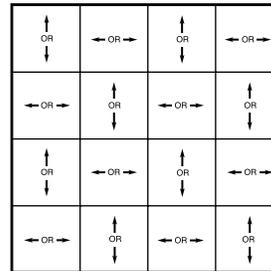

Fig. 1 - Turn tiles as shown.
- For best visual results: For DuraCeramic Origins the directional arrows printed on the back of the tile should be installed following the illustration in (Fig. 1), with tiles turned randomly, i.e. north, south, east and west.